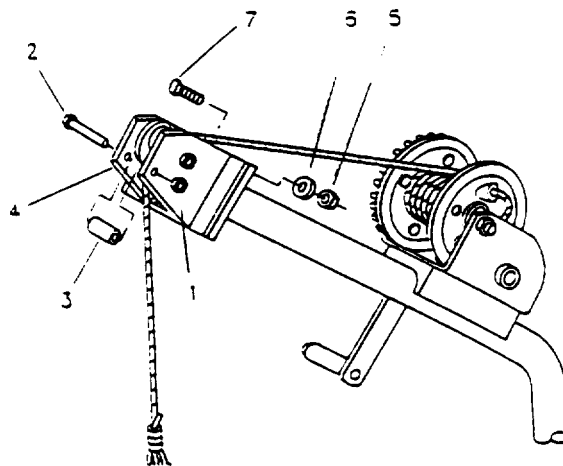

Figure 4-3. Pulley Assembly Replacement
**4-11 PULLEY ASSEMBLY REPLACEMENT (Refer to Figure 4-3)**